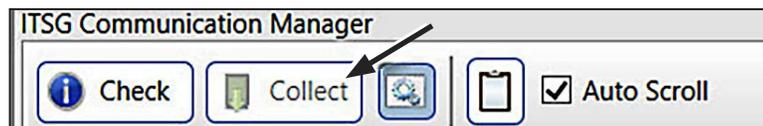

Figure 107. The Collect instant replay log button.
**STEP 6.** When the connection has been verified, click the **Collect** button, shown in Figure 107, to start data collection. The progress will be shown at the **Operational Log** tab and will continue to display the progress of collecting the log files until either an error is encountered or the process has been completed.